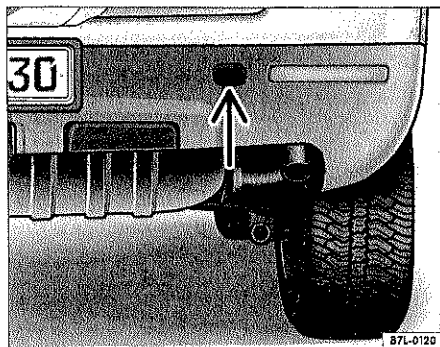

Fig. 54 Right rear section: Removing cover.
The threaded hole for the towing eye is in the rear bumper on the right side ⇒ fig. 54. The cover has to be pried off to reach the hole ⇒ ①.
– Remove the rear cover ⇒ fig. 54 with the help of a screwdriver and let the cover hang from the vehicle.